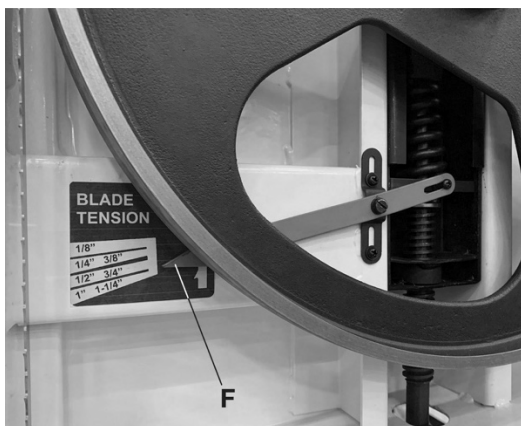

Figure 5-10
3. The gauge (F, Figure 5-10) indicates approximate tension according to blade width in inches. Initially, set blade tension to correspond to width of blade. As you become familiar with the saw, you may find it necessary to alter blade tension from the initial setting.